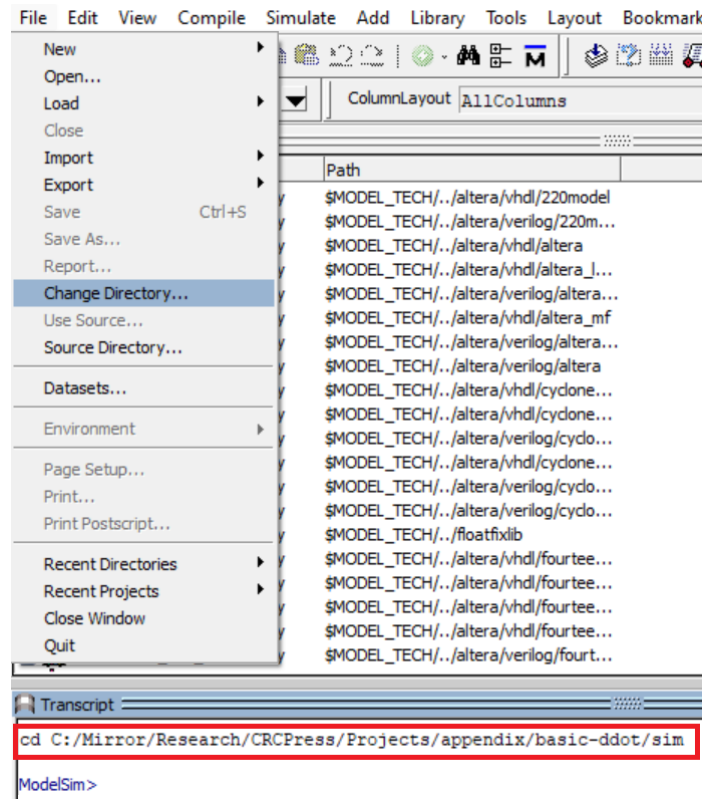

FIGURE B.1
1. Click on File and select Change Directory, as shown in Fig. B.1.